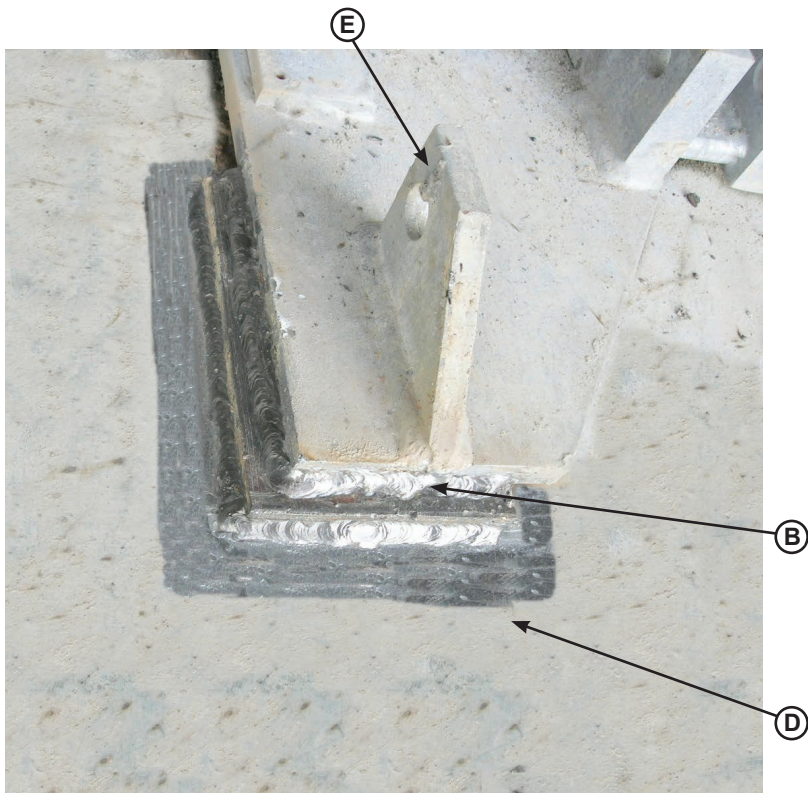

Figure 9
10" pit models only: Before installing the leveler, the storage prop trunnion (K) in the rear embed channel (E) must be shimmed (B) and welded to the embed on the pit floor (D). See **Figures 9, 10 and 11.**